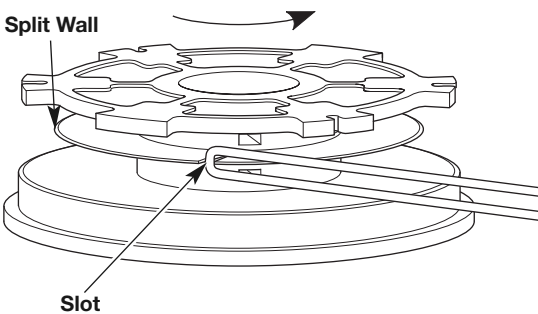

Fig. 15
2. Insert the loop into the slot in the split wall (Fig. 15). Wind the line tightly in the direction shown on the bottom of the inner reel until about 6 inches (150 mm) of line remains. Keep the top half of the line above the split wall and the bottom half of the line below the split wall.